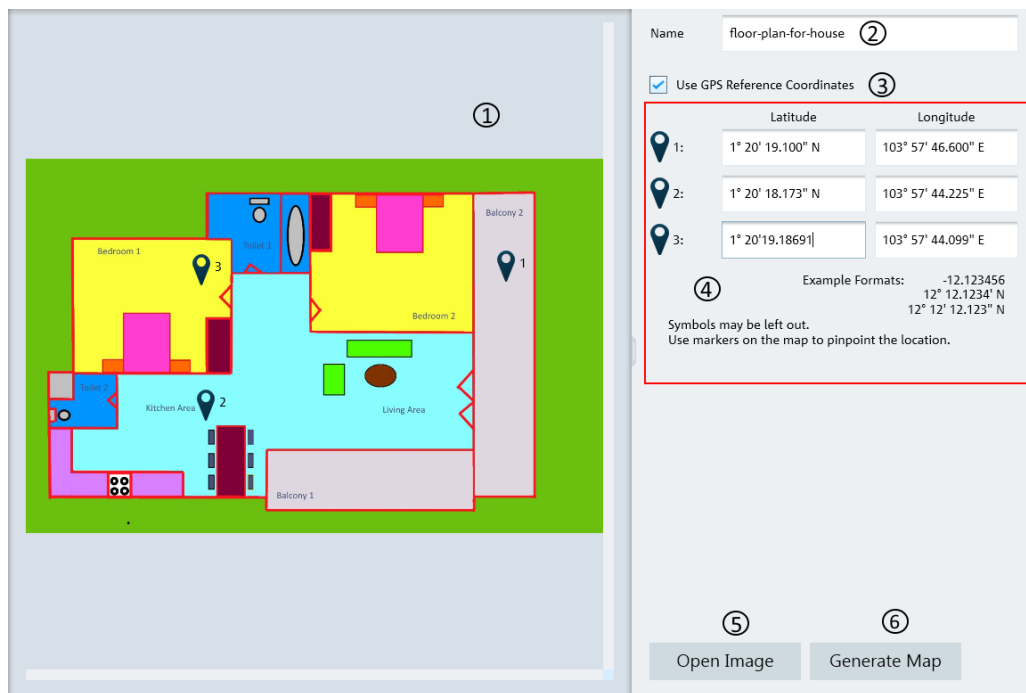

Figure 4-36: Map creator dialog box
In addition to creating a map, you can also specify the exact geographical location of the area you are measuring. To do so, you can specify three GPS reference points in the entry field (see item 4 of Figure 4-36). With a GPS referenced map, it provides the following useful features: